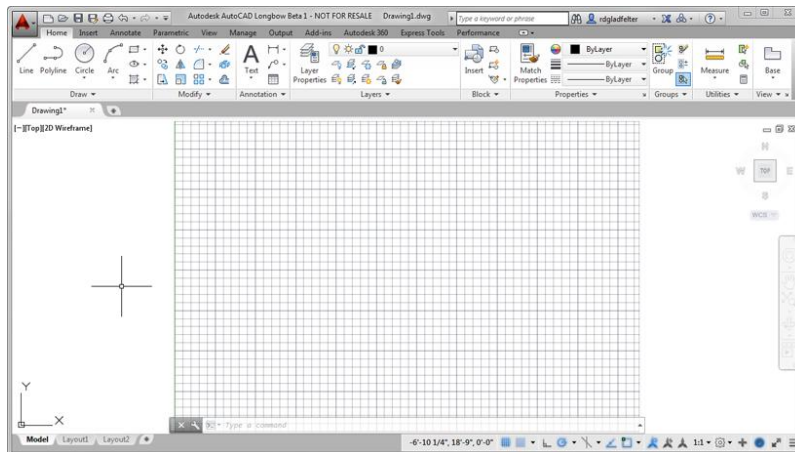

FIGURE 3.9 : The drawing with the grid extending to the 60' × 40' (18,000 mm × 12,000 mm) limits
- To bring the entire area defined by the drawing limits onto the screen, use the ZOOM command again, but this time use the All option to bring the drawing limits into view (see Figure 3.9).